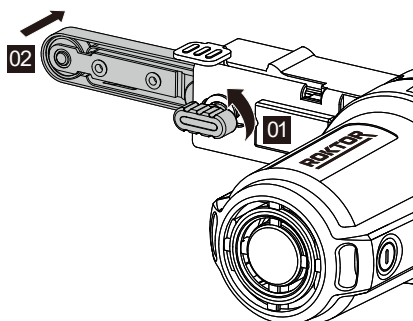

Figure 3-1
1. ADJUSTING THE SANDING BELT TRACKING (SEE FIG. 3-1 & 3-2)